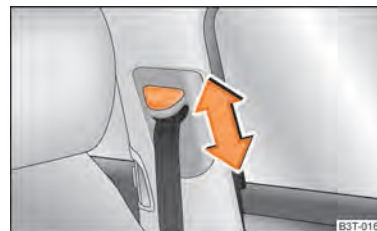

Fig. 142 Front seat: Seat belt height adjuster
- Move the height adjuster in the desired direction up or down ⇒ fig. 142.